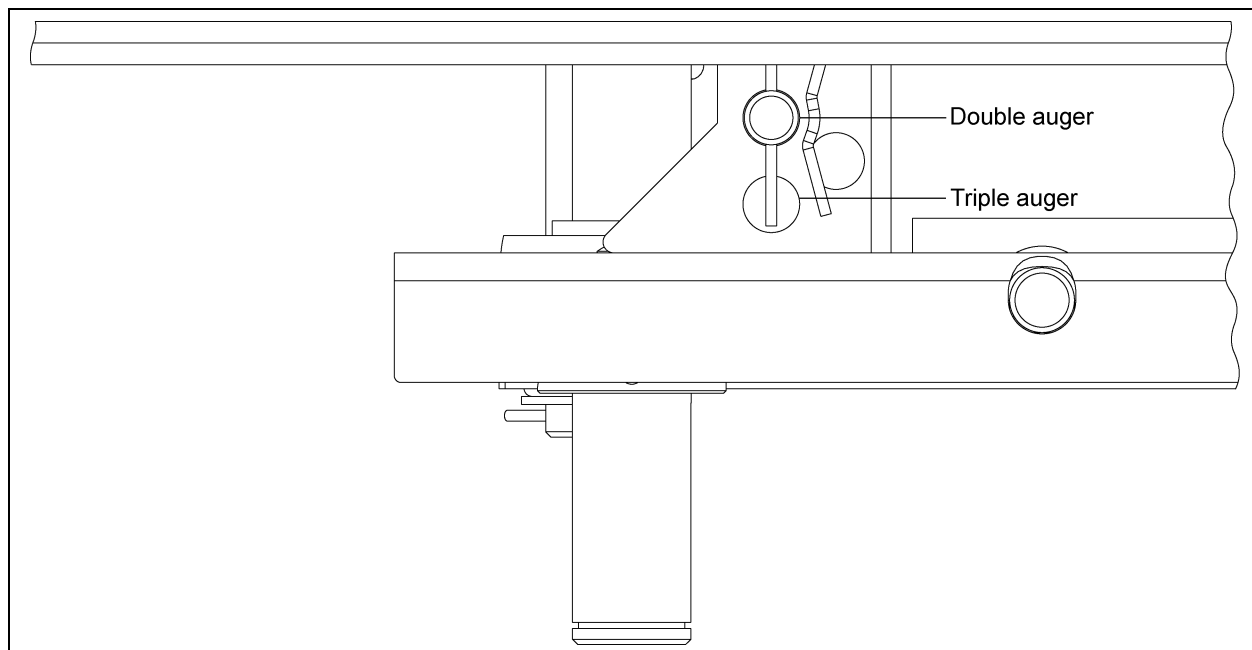

Figure 4L
**NOTE:** 36' and larger double auger trolleys require the hold-down rods to be moved to the bottom hole position. This is done by removing the spring clip and pulling the rod out and reinserting it in the bottom holes from the side away from the down auger motors. Make sure holes are aligned. (See Figure 4L for proper location the hold-downs.)